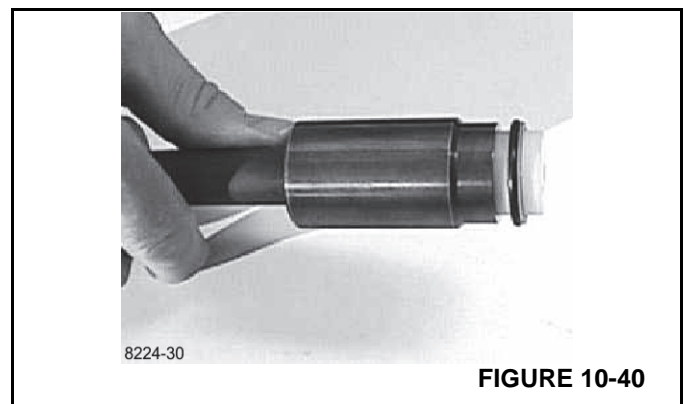

FIGURE 10-40
8. Grease O-ring and kin-ring/roto Glyd with hydraulic oil and place them on the tool (Figure 10-40).